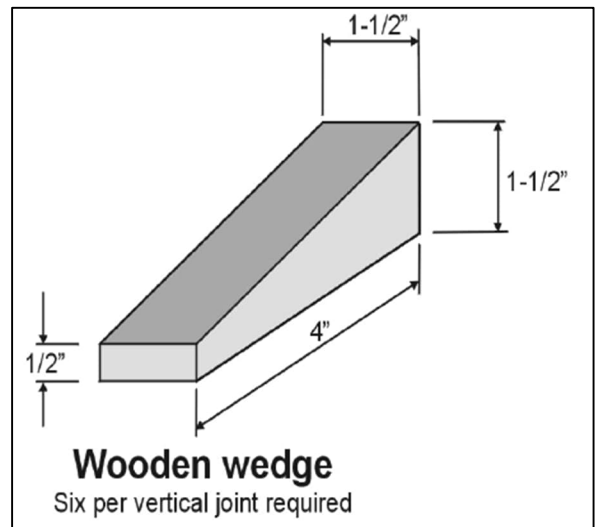

Figure 4: Wooden wedge.
- Wooden wedges in a quantity at least sufficient to provide 4 to 6 wedges per vertical joint for the length of the structure under construction (Figure 4).